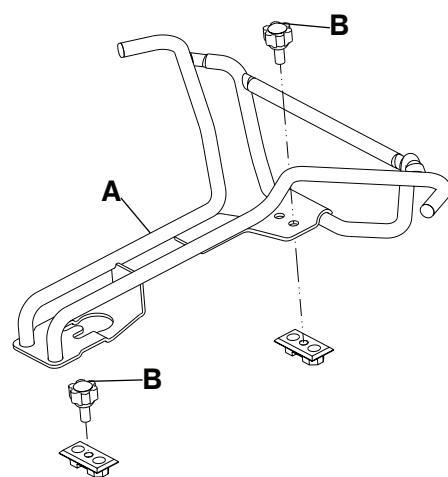

Figure 12 – Position and fasten antler over the floor plates
7. Position the antler over the floor plates and fasten the antler (A) with the red knobs (B) (Figure 12).